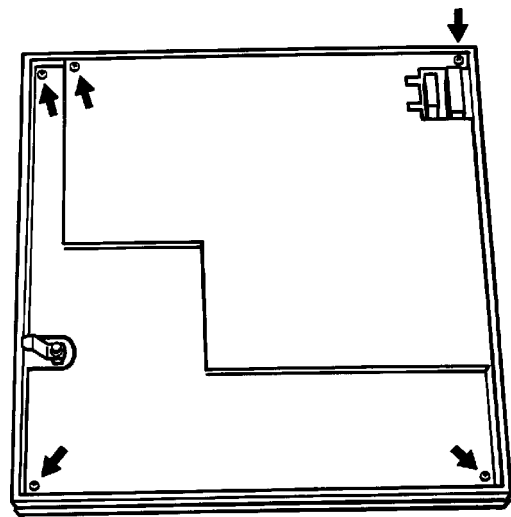

Figure A1.2.2a
- a Release the door inner cover by undoing and removing the fixing screws as shown in figure A1.2.2a.